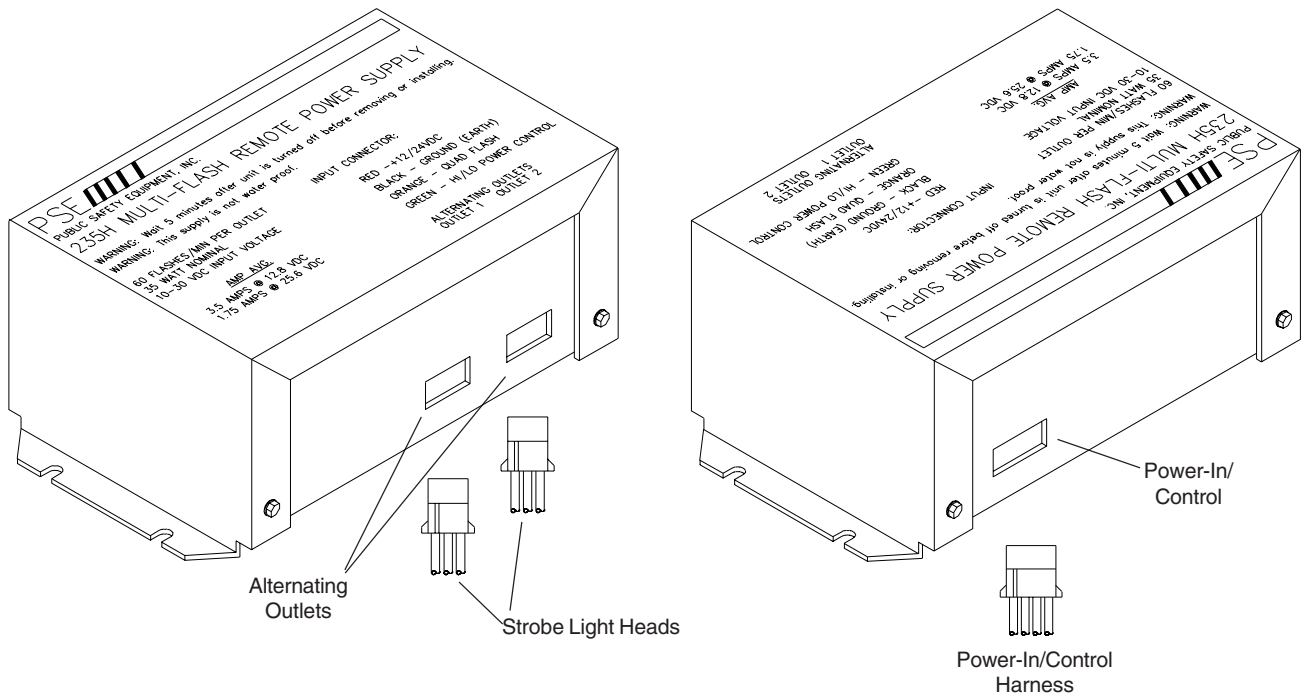

FIGURE 3
All MODEL PSE235 two-head Remote Strobe Power Supplies come equipped with the following standard features: (See Figure 3, page 5)
WARNING! It is very important to observe the pin locations and color on the AMP three pin socket housings. Improper connections could damage the remote strobe heads, see Figure 3.
3. With the AMP 3 pin connectors terminated properly , plug each cable into the appropriate 3 position socket on the PSE235 strobe power supply, see Figure 3, page 5.
The Power-input/Control harness is to be connected to the 4-position socket connector on the PSE235 strobe power supply. See Figure 3, page 5. The Power-input/Control harness is to be connected to customer supplied wiring and a customer supplied switch to complete the installation.